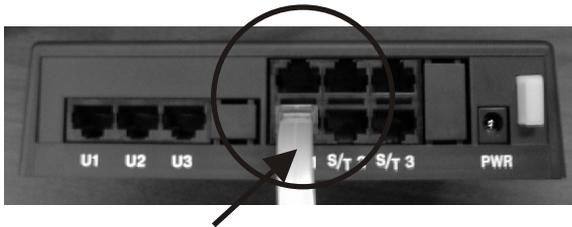

Figure 6. S/T-Interface Connector
Step 4: Connect one end of the RJ-45 to RJ-45 cable provided to one of the S/T connectors on the UT3620. Connect the other end to the TE. This is illustrated in **Figure 6** on the next page.